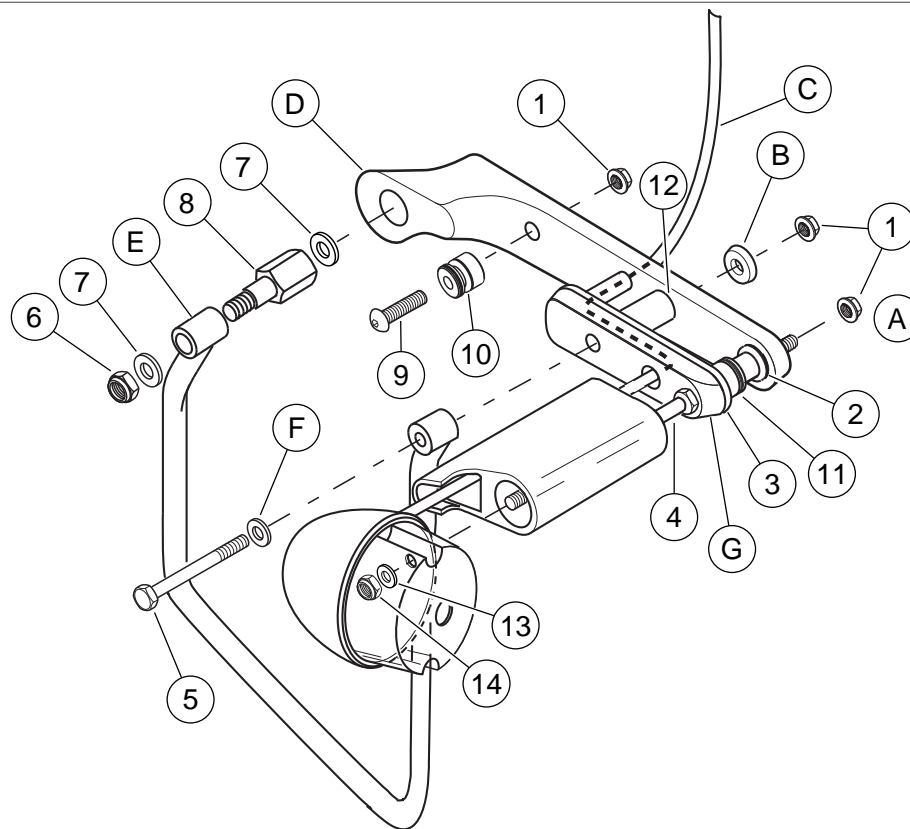

Figure 2. Service Parts: XL Docking Hardware/Directional Relocation Kit
See Figure 2 and Table 1.
- See Figure 2. Following directions supplied with saddlebags to relocate rear turn signals, but also use the following exceptions to install the parts contained in this kit:
- Use turn signal studs (4) in place of hex bolts supplied with saddlebags. The longer studs are required to accommodate the rear docking points.
- On each side, insert relocation pad plate (3), saddlebag mount spacer (12), rear docking point (2), and docking point spacer (11) between relocation pad (supplied with saddlebags), and fender support cover as shown.
- Use 4-inch long cap screw (5) in place of hex bolts supplied with saddlebags. The longer cap screws are required to accommodate the rear docking points.
See Figure 2. Before mounting saddlebag supports, remove acorn nut from upper shock mount, and install washer (7), and shock mount spacer (8) as shown. Tighten upper shock mount spacer to 21-35 ft-lbs (28-47 Nm). This will properly space out the saddlebags to accommodate the docking points.
2. Mount front docking points with button head screws (9), and locknuts (1) as shown in Figure 2. Tighten locknuts to 8-10 ft-lbs (11-14 Nm).